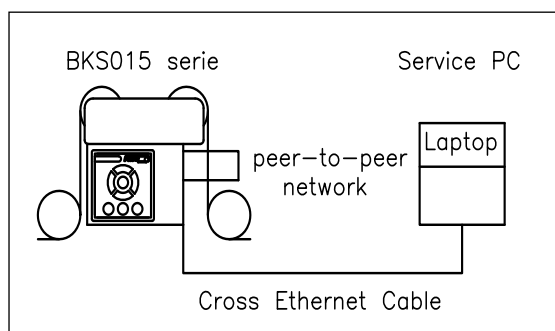

Fig. 21: Correct connection with cross-over-cable. K015010e
Fig. 21 and **22** show the peer-to-peer connection between PC und BKS015.EIP. Use for this configuration a cross-over-cable and not the standard patch Ethernet cable
1. Connect the “cross over cable” to both the BKS015.EIP and to the appropriate port on the desktop or laptop computer (see **Fig. 21** and **22**).